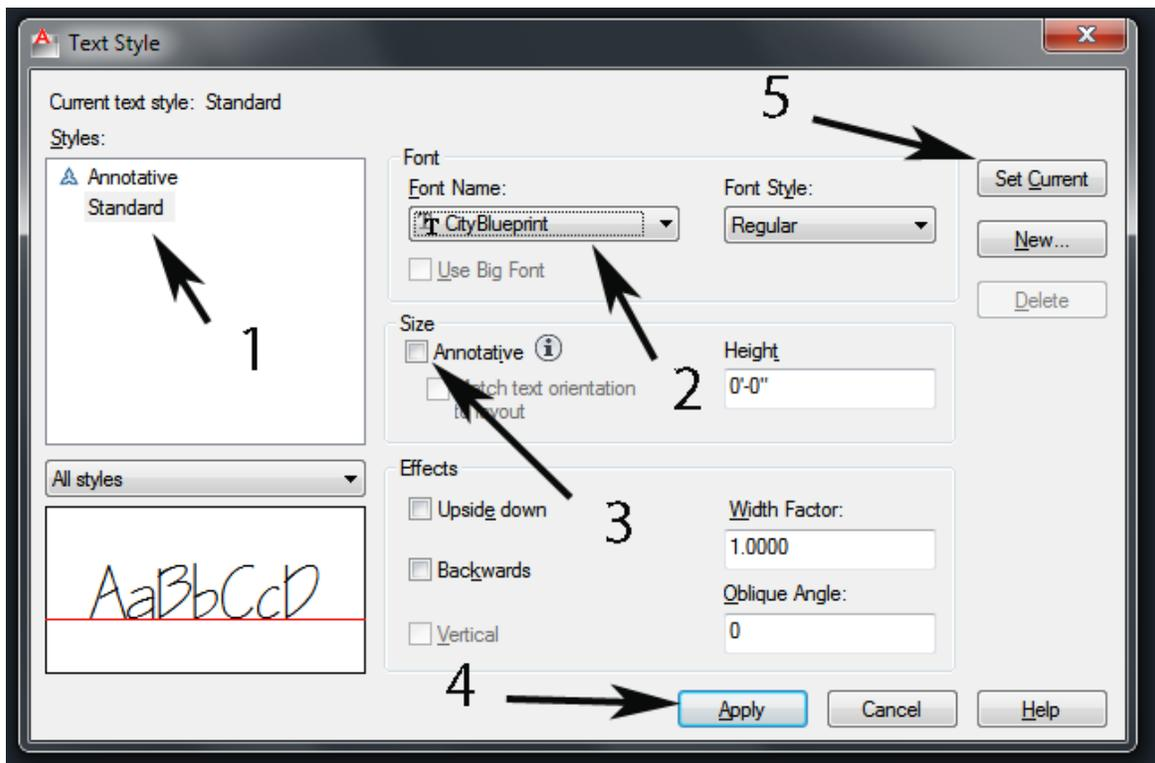

Fig 1-59
Type: **style <e>**. The **Text Style** dialog box will open as in **Fig 1-59**. Click on **Standard** (1 in Fig 1-59). In the window at **Font Name** (2 in Fig 1-59) scroll to **City Blueprint** and click. **Uncheck the Annotative** box (there will not be an Annotative box in older versions). Click **Apply** (4) (if the **Apply** box in not highlighted then skip this step), then **Set Current** (5), and **Close**.